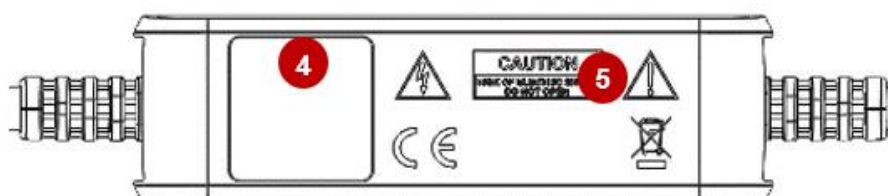

Figure 19 - PowerCable xxx 101x bottom view
4. Type plate – indicates the device model, electrical rating, maximum switching power and serial number (Figure 19)